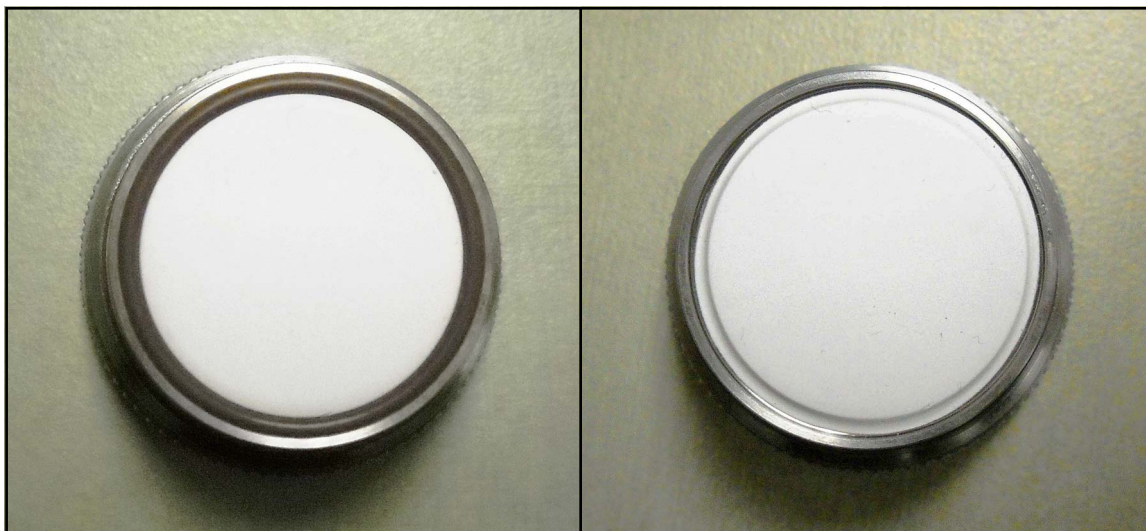

Figure 63: Orient the Filter Cap and Remove the Large O-Ring
4. Carefully remove the large O-ring (see *Figure 63* below).